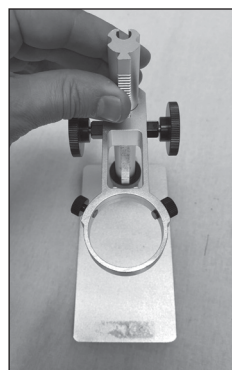

Figure 7. The correct orientation of the microscope ring—directly over the base.
3. Thread the focus post into the base flange, and rotate until the post stops turning. At this point, the microscope ring holder won't be centered above the base. Unthread the entire post slightly until the ring holder is directly above the base (**Figure 7**).